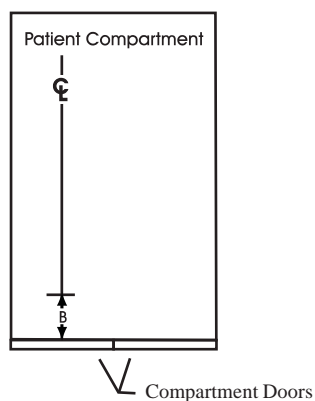

Figure 5 - Measuring from the Rear Doors
1. Beginning from the **closed** rear compartment doors, measure and mark a point on the Centerline for Measurement **B** (Figure 5). Increase this distance as necessary to comply with federal KKK-A-1822 regulations (see *Cot Placement Considerations*, page 10).